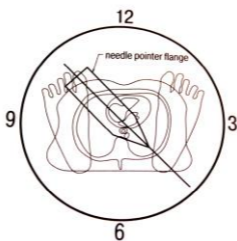

Fig. 5
- Adjust the pointer flange so that the needle is perpendicular to the fossa ovalis (typically between 3:00~5:00 o'clock, as viewed from the foot end of the patient). (See Fig 5.)